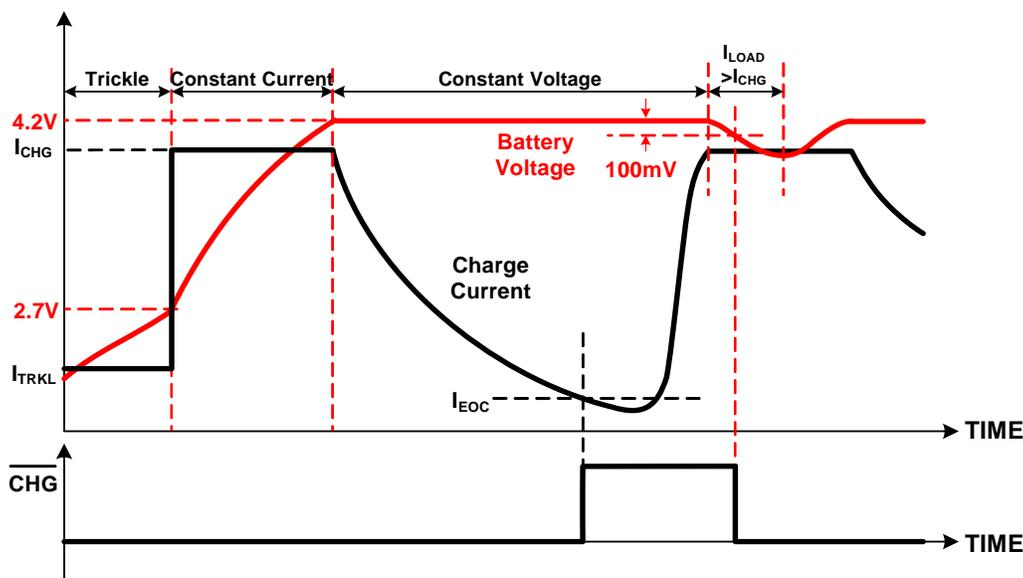

Figure 27. Charge Profile
The 34675 uses the standard charge profile with trickle, constant-current (CC), and constant-voltage (CV) charge modes, as shown in Figure 27. Both the CC and the CV charge modes are also called fast-charge mode. When the input voltage rises above an internal power-on-reset threshold, the  $\overline{\text{PPR}}$  pin outputs a low voltage to indicate the power-supply presence. The charger starts with the trickle-charge mode until the battery voltage is above 2.7V. The CHG pin outputs logic low voltage at the beginning of the trickle-charge mode. If the battery voltage is unable to rise due to a battery failure, charging will remain in the trickle-charge mode. When the battery voltage reaches the 2.7V threshold, the 34675 softly changes to the CC mode. The soft transition minimizes the input-voltage drop and reduces the requirement of the input decoupling capacitance. When the battery voltage reaches 4.2V, the 34675 enters the CV mode and regulates the output voltage at 4.2V. The charge current decreases gradually in the CV mode. When the current drops to the EOC current threshold, the 34675 outputs logic high level at the CHG pin to indicate that the charging is completed.